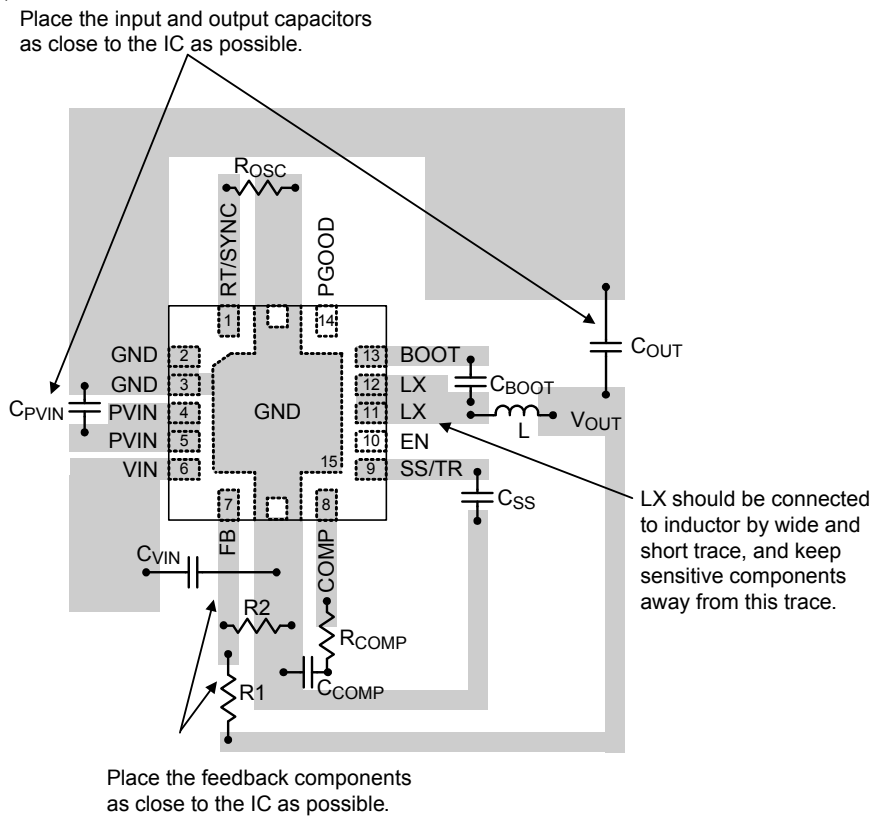

Figure 11. PCB Layout Guide
- ▶ An example of PCB layout guide is shown in Figure 11 for reference.